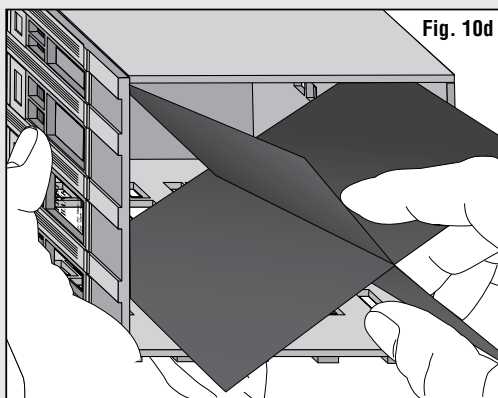

Fig. 10d
- Insert into Building. (Fig. 10d)